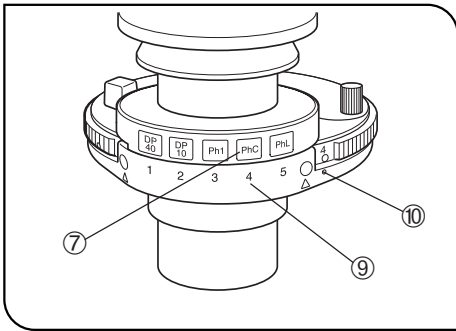

Fig. 49
6. Place the index ⑦ provided with each optical element in the index insertion hole having the same number ⑩ as the number of the position ① in which the corresponding optical element is mounted. (Figs. 49 & 50)
Ⓞ The optical element with the number indicated by marking • ⑩ is engaged in the light path. (Fig. 49)